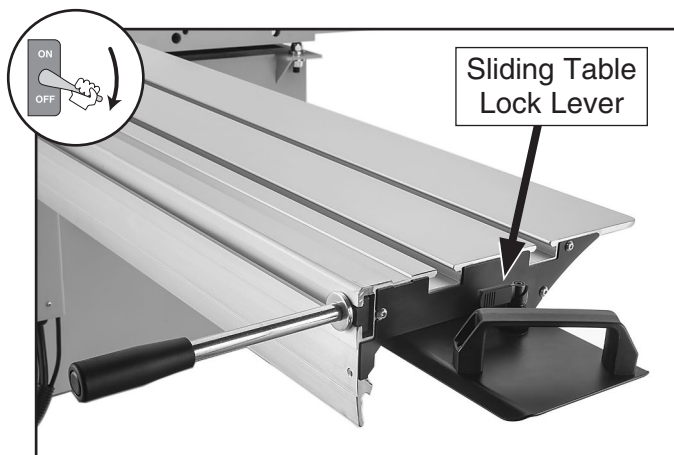

Figure 98. Location of sliding table lock lever.
2. Use sliding table lock lever (see **Figure 98**) to secure table in position.